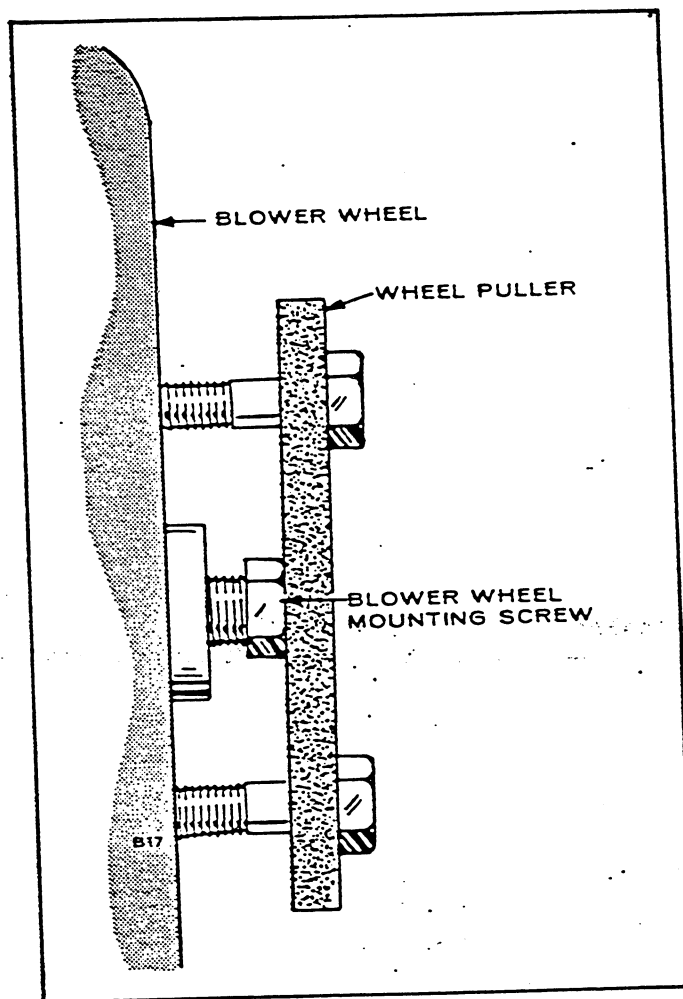

FIGURE 24. BLOWER WHEEL PULLER
2. Install a puller bar (Onan Part No. 420A100) on the flywheel as shown in Figure 24.